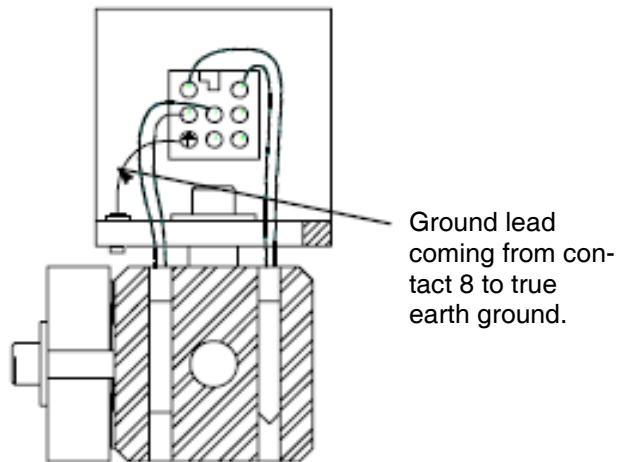

FIG. 7
3. Verify that socket contact E on six pin models (see FIG. 5) or contact eight on eight pin models (see FIG. 7), inside control panel receptacle, is connected to true earth ground.